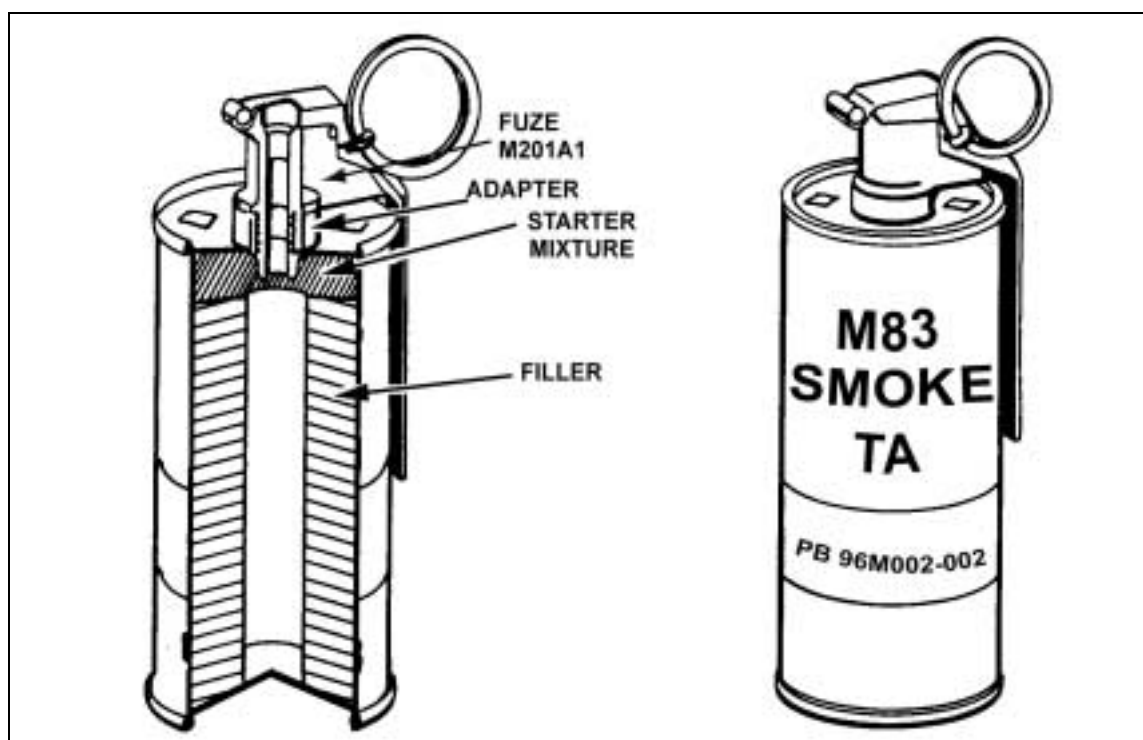

Figure 1-8. AN-M83 white smoke hand grenade.
b. **AN-M83 HC White Smoke Hand Grenade.** The AN-M83 HC white smoke hand grenade (Figure 1-8) is used for screening the activities of small units and for ground-to-air signaling.